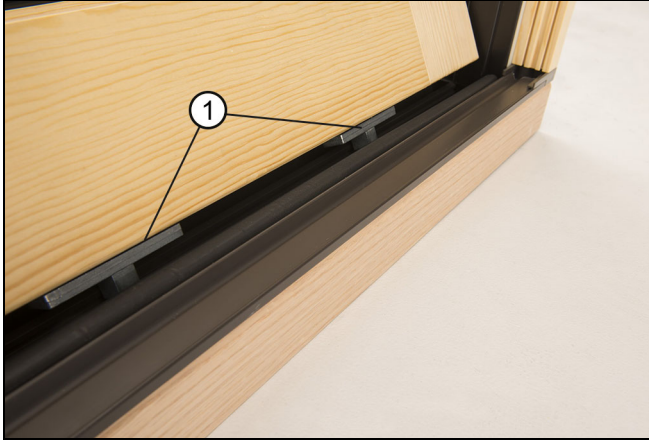

Figure 87
2. From the exterior side, tip the panel into place by placing the two sill bolts into the interior track of the sill. See Figure 87.